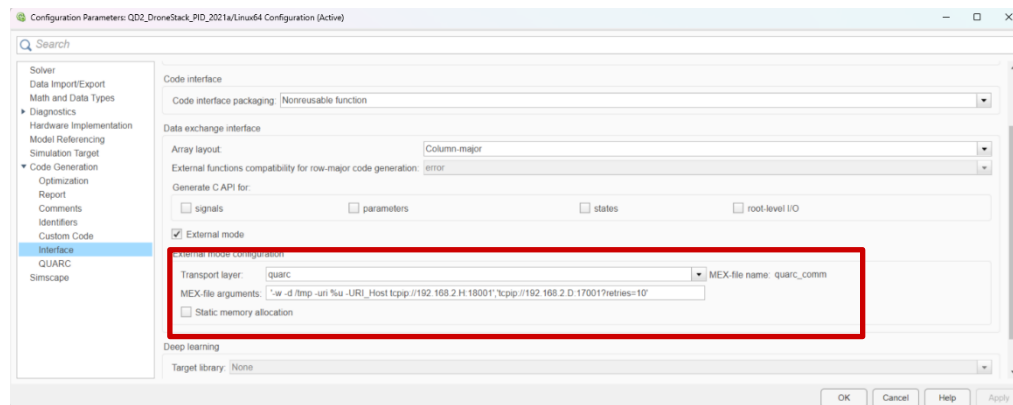

Figure 3. Model Configuration Parameters in the Drone Stack Model
5. Expand **Code Generation** on the left side of the window, click on **interface** and set the **MEX-file arguments** (Figure 3) as follows